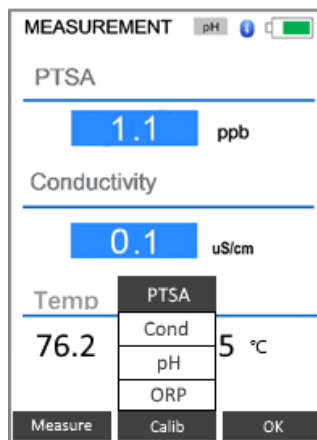

Figure 11
3. A screen like Figure 11 appears. The unit is actively reading and displaying both PTSA and Conductivity.